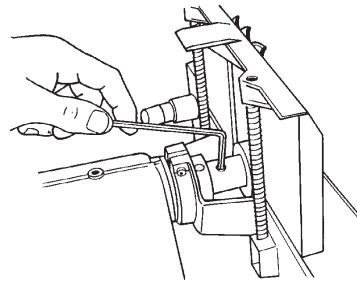

Figure B-106
- 79. Loosen the accessory mount lock and remove the extension table. Loosen the table height lock and remove the worktable. Place the saw blade and arbor in the lower saw guard cover (204).
- 80. Fit the lower saw guard's clamp on the spindle quill (59). Line up the arbor set screw with the spindle knob's set screw (where the spindle flat is located). Use a 5/32" Allen wrench to tighten the arbor set screw, as shown in Figure B-106.